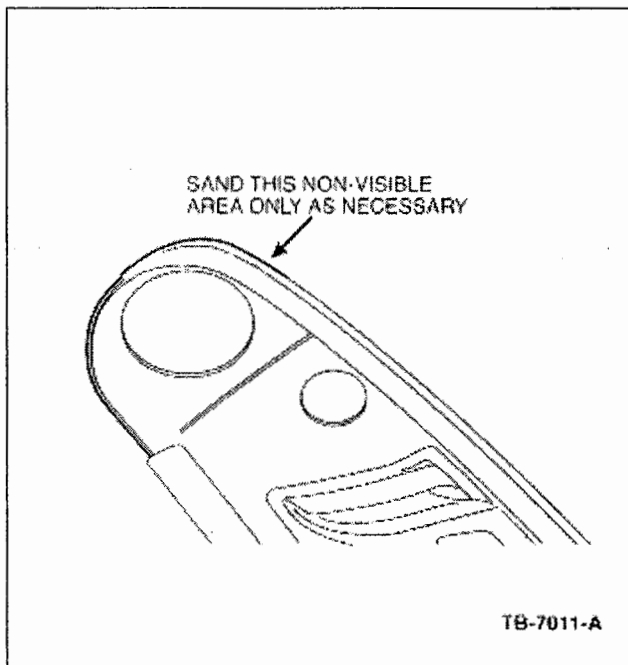

Figure 10 - Article 03-4-6
18. Test fit the new defroster grille into the defroster grille opening. If the defroster grille is too long or does not fit properly, trim the ends of the grille to allow proper fit (Figure 10).